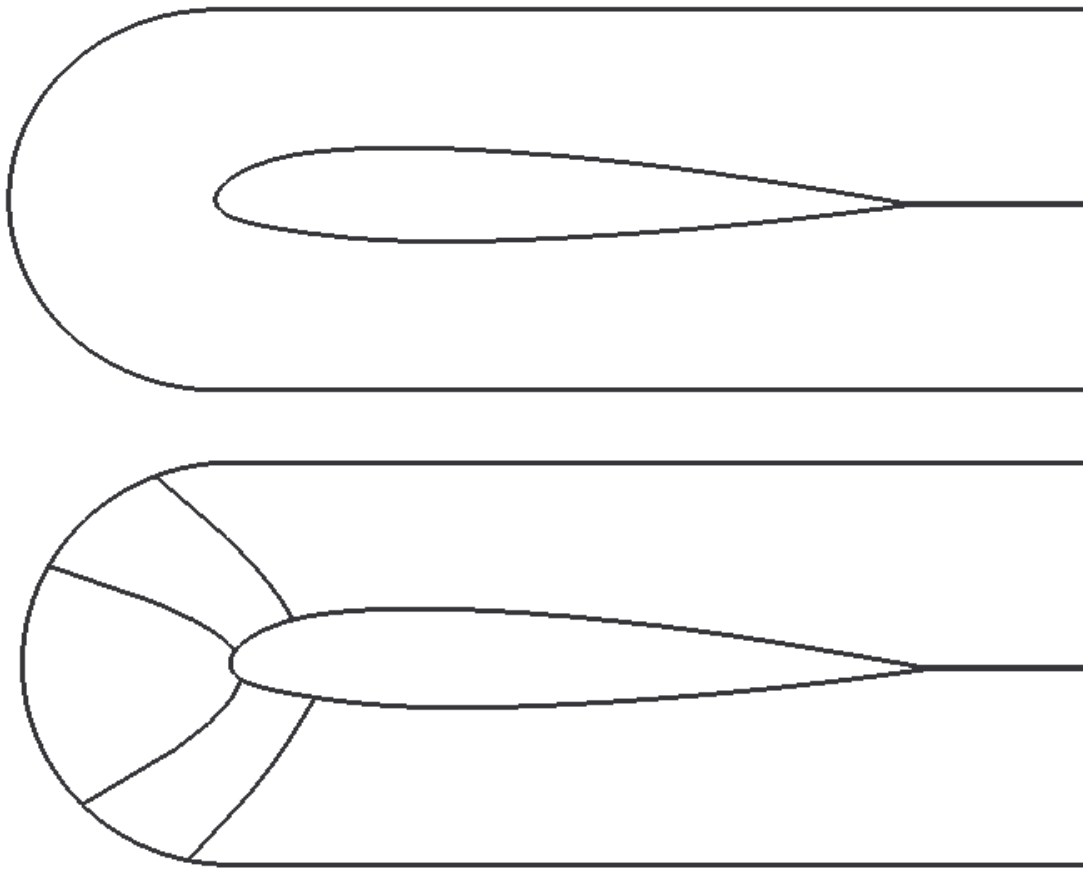

Figure 3. Top: single block near field; Bottom: multi-block near field created using radial cuts.
- Create the near field block(s). This includes at least a single “surrounding block”, but may include multiple blocks that surround the viscous sublayer. Figure 3 shows two types of near field decomposition: single block and multiple blocks with radial cuts.